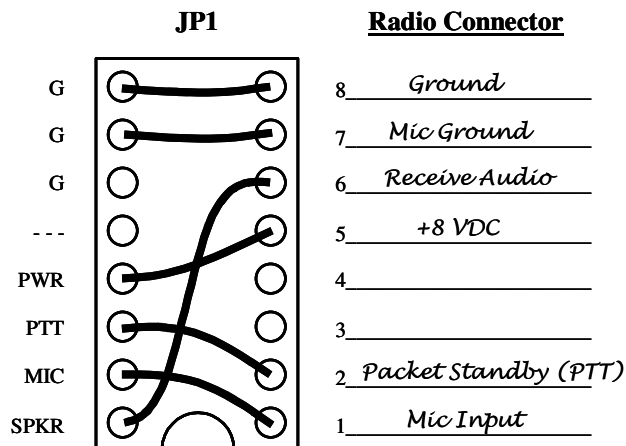

Figure 3 – Example Jumper Wire Diagram for TS-450
- Draw Jumper Wires** - Once you have verified your pin-out and are comfortable with the results, you are ready to label the lines in Figure-2 and draw in the jumper wires. To do this, you simply need to draw a line between the pins on the left of JP-1 (G, PWR, PTT, Mic & SPKR) and their appropriate match on the right side of the diagram. For example, draw a line between “PWR” pin on the left of JP-1 and the line that you labeled “Accessory Voltage”. The “PTT” pin should be connected to the pin that you labeled “PTT” and so on. If you are installing the Signalink on a Data or Accessory port, then refer to Figure 1 for the correct signal names. An example of the Jumper Wiring Diagram for a Kenwood TS-450 is shown in Figure 3.